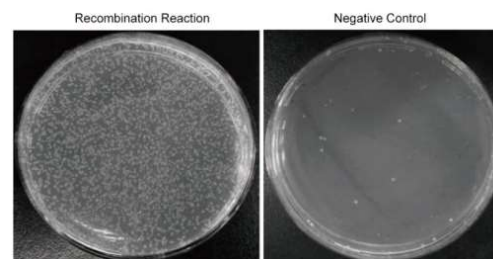

Fig 1. Plate incubated overnight
6.1 After overnight culture, hundreds of mono-colonies will form on the transformation plate of recombination reaction, whereas fewer of those on the transformation plate of negative control (Fig 1).